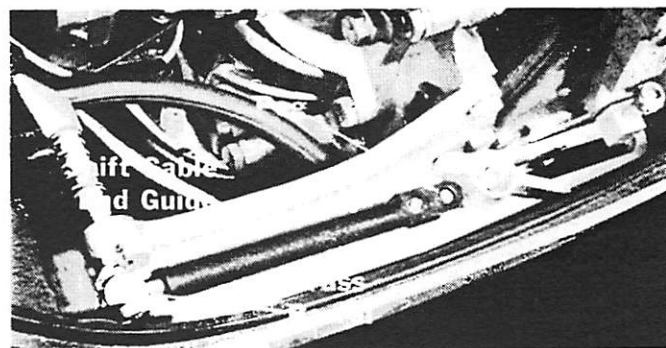

Figure 7. Positioning Brass Barrel and Cable End Guide
- With motor in forward gear, place brass barrel (on shift cable) in recess in bottom cowl and cable end guide over peg without disturbing setting as shown in Figure 7. If necessary, readjust brass barrel for correct position and to compensate for backlash.